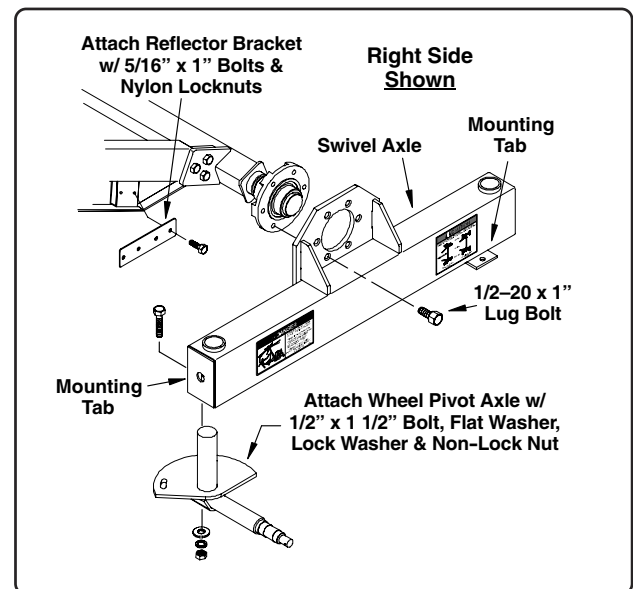

Fig. 1
2. Locate the existing reflectors that are attached to the left and right sides of the conveyors' undercarriage. Remove the reflectors and retain the hardware. The kit contains a reflector location bracket, attach these brackets to the same location from which the reflectors were removed. Secure each bracket using two (2) 5/16" x 1" bolts and nylon locknuts. Attach the reflectors to the brackets using the hardware previously removed.
3. Mount the swivel axle weldments onto the existing hubs on each end of the conveyor axle as shown in Fig. 1. Secure each axle weldment to the conveyor hub using six (6) 1/2" x 1" lug bolts.
4. Locate the two right and the two left hand wheel pivot axles from the kit (See Fig. 1). Insert the right hand pivot axles into the sleeves located on each end of the right side swivel axle, insert the left hand pivot axles into the sleeves on the left side swivel axle.